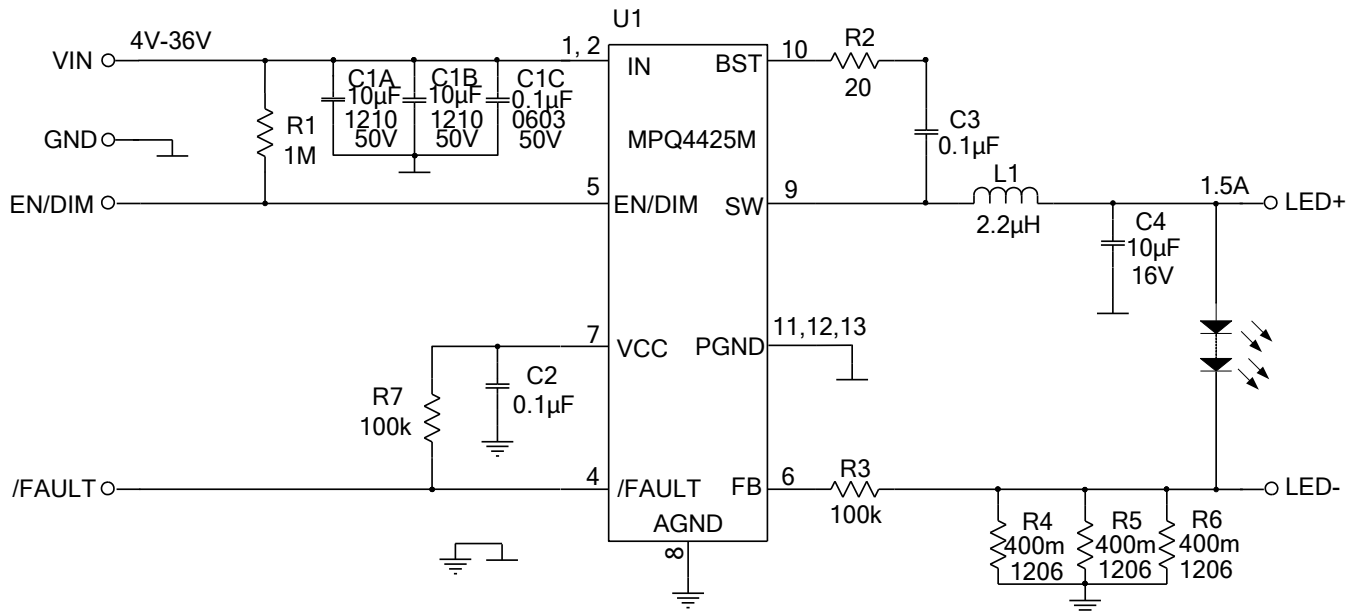

Figure 8: $I_o=1.5A$ Application Circuit
7) The recommended layout is based on Figure 8.